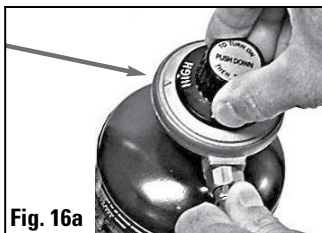

Fig. 16a
- 2) Turn the regulator knob counterclockwise from the OFF/LOCK position, push in and turn to HIGH. (FIG 16A)